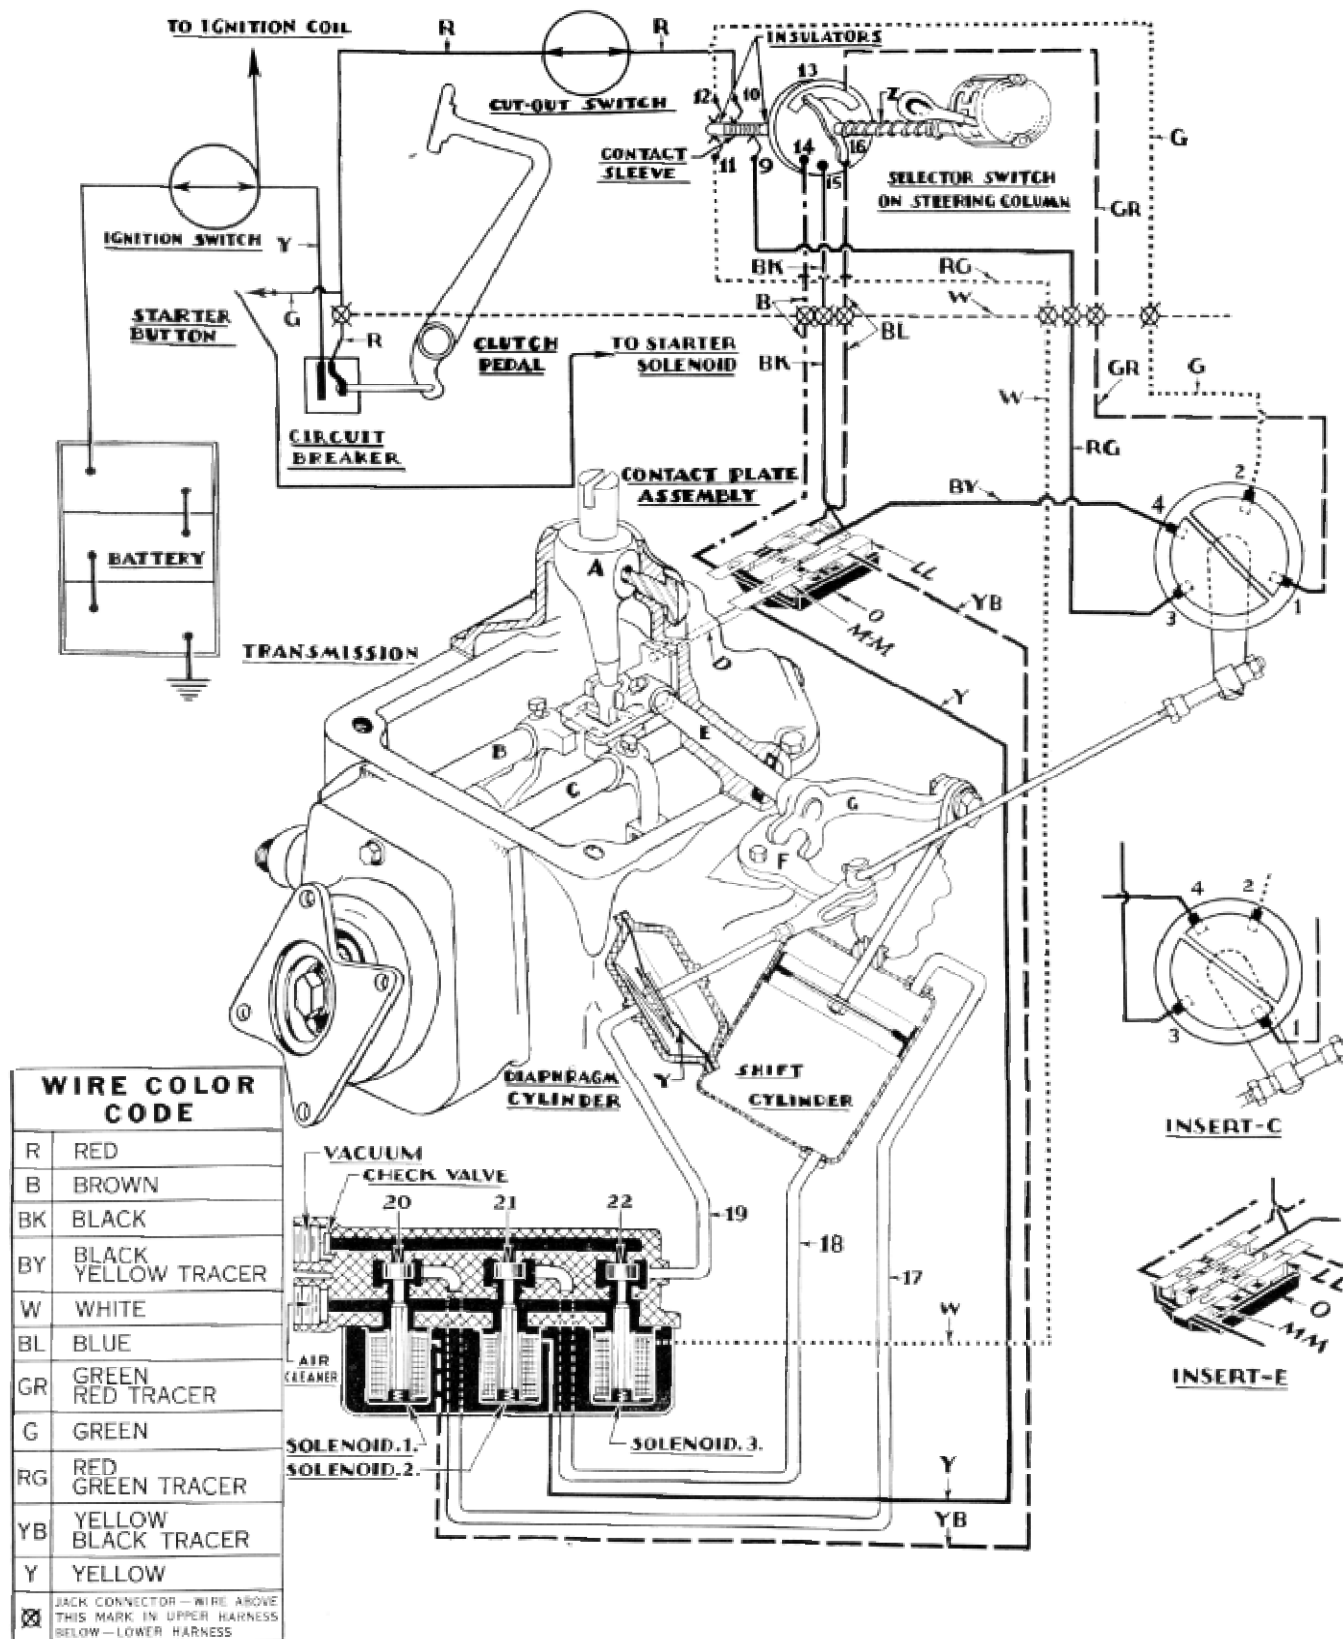

Figure 4
Figure 4 shows the selector lever in the high gear position and the transmission in low gear. In order to shift from low to high, the power cylinder piston must first move backward and bring the transmission to neutral. We find that the circuit is correct for this as indicated by the solid lines from 10 to 9 and 3 to 4 on the interlock to bar (W) on the contact plate. The circuit is closed from (W) through the fingers (M-M) to bar (U) to solenoid 2 so that the movement will be backward until the fingers (M-M) break contact with the bar (W) which occurs when the transmission is in neutral.
Had the selector lever been set in the second gear position, Figure 4, the movement to neutral would have been the same as for high gear. From neutral the movement would have been backward to second (instead of forward to high), as the circuit would have been completed from 13 to 14 (instead of to 16) to bar (Q) through (M-M) to (U) to solenoid 2.